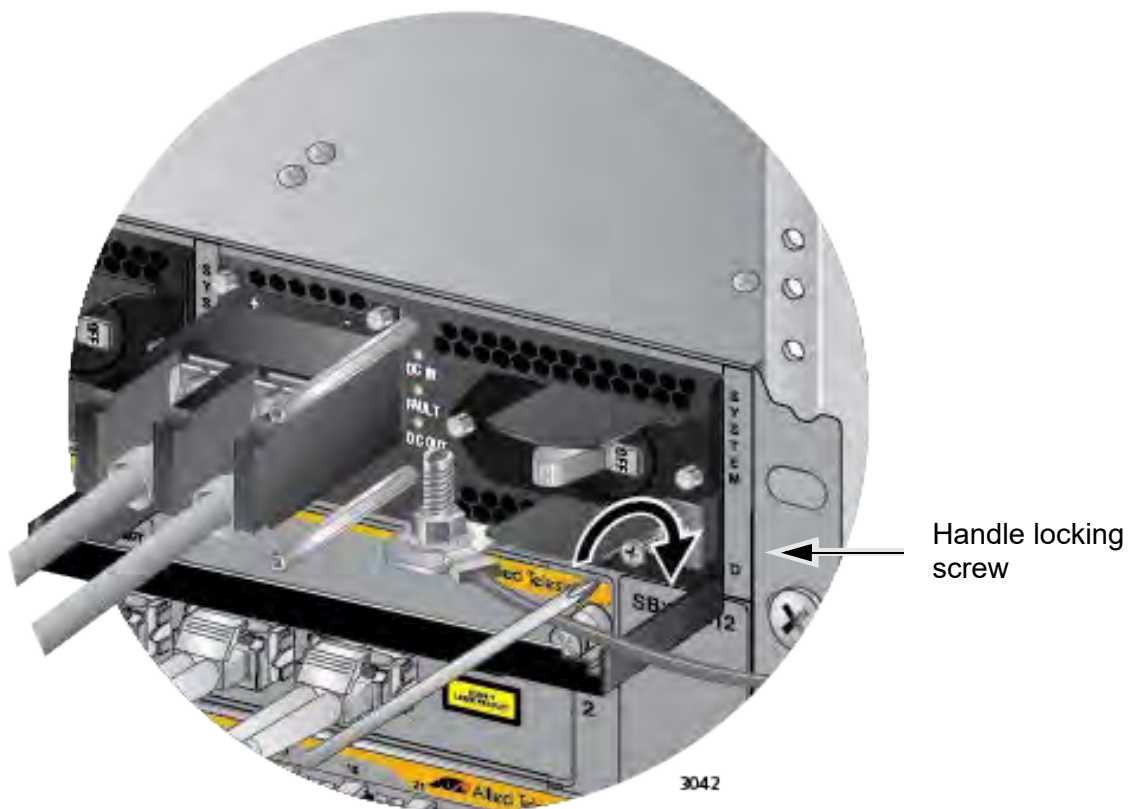

Figure 149. Tightening the Handle Locking Screw
8. With a #2 Phillips-head screwdriver, tighten the handle locking screw to secure the power supply to the chassis. See Figure 149 on page 227.